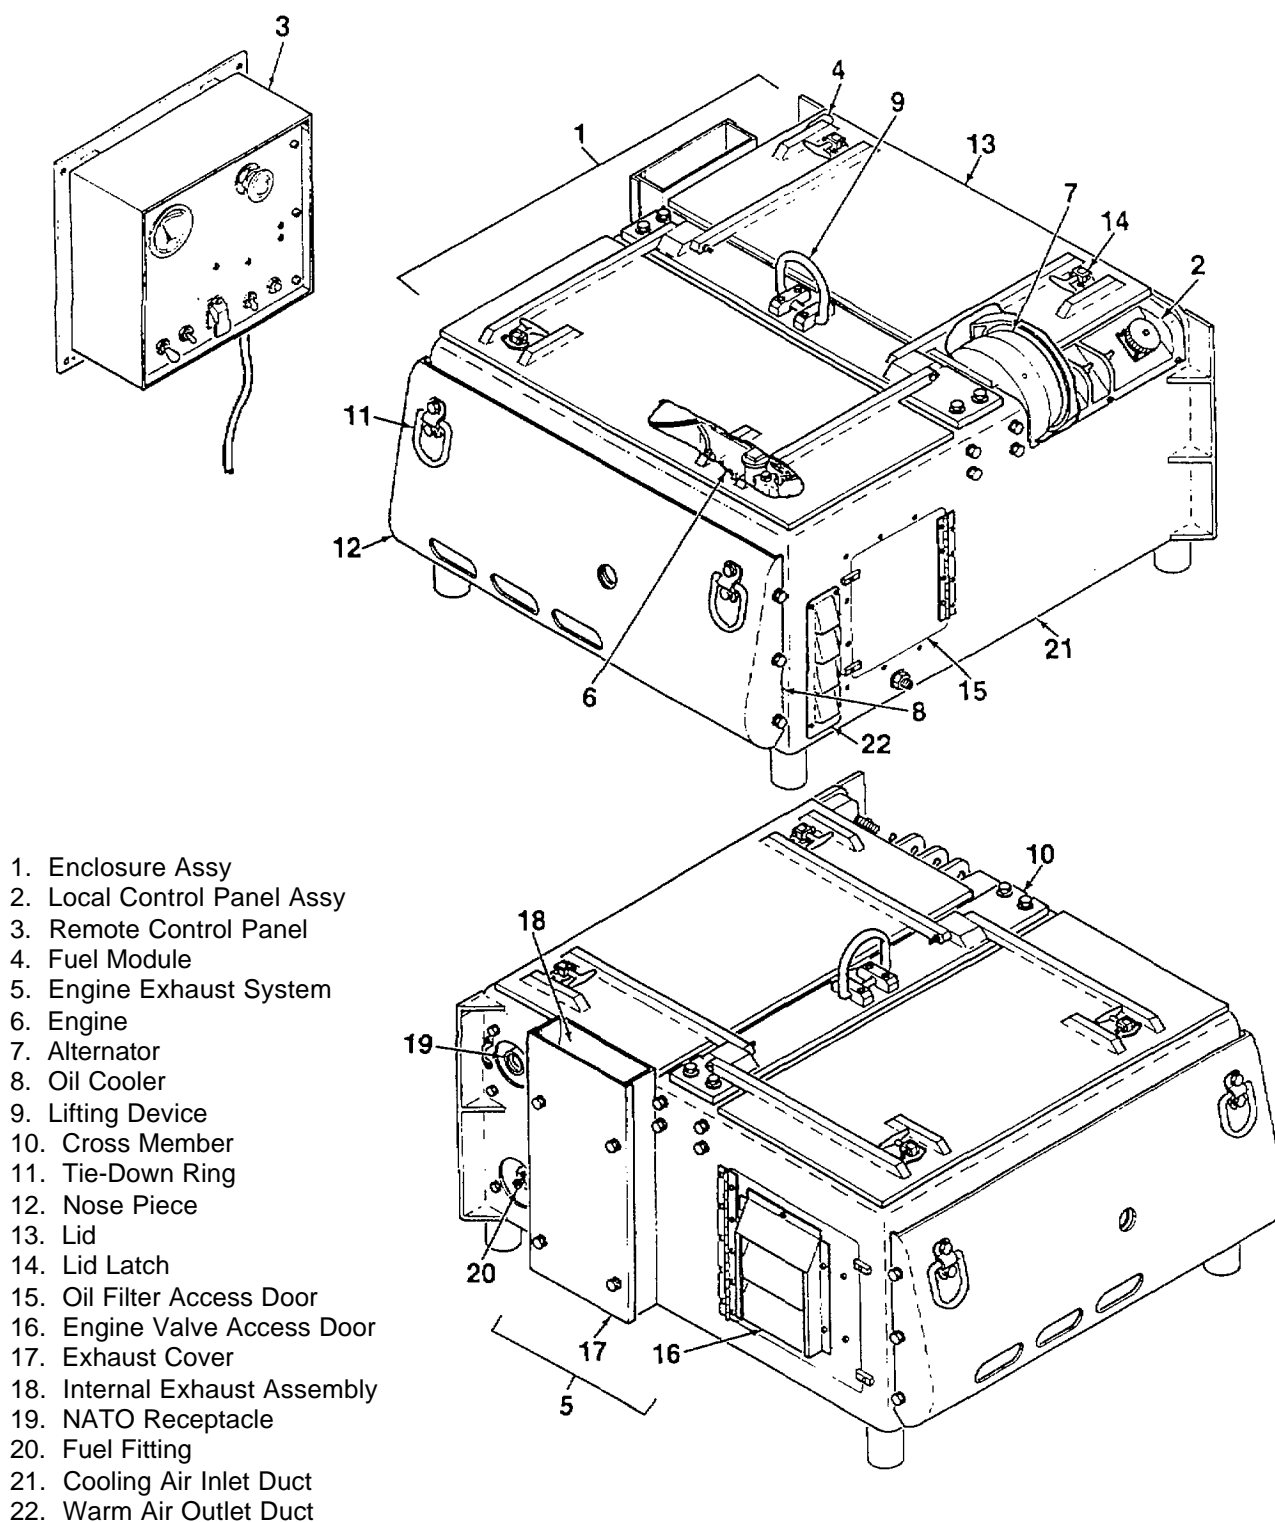
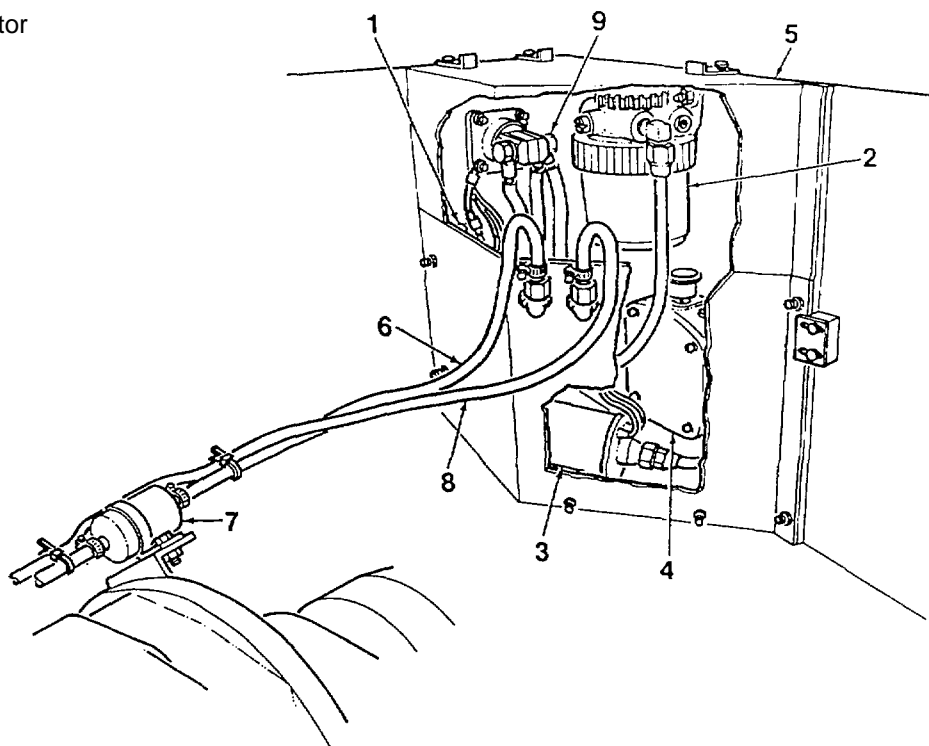

Figure 1-1. 5kW, 28VDC, Diesel Engine Driven Auxiliary Power Unit (APU)
Figure 1-2. Fuel System Components
This manual provides instructions on operation, troubleshooting, and maintenance of the 5kW, 28VDC, Diesel Engine Driven Auxiliary Power Supply (APU), MEP-952B, NSN 6115-01-452-6513. Information is provided on principles of operation, controls and indicators, preventive maintenance checks and services, lubrication, operation under both local and remote conditions, troubleshooting, and maintenance. Refer to Figure 1-1 for full view illustrations of the APU showing features pertinent to the operator.
**1-10. LOCATION AND DESCRIPTION OF MAJOR COMPONENTS (FIGURE 1-1).**
b. The APU consists of an aluminum enclosure assembly (1, Figure 1-1), local control panel assembly (2), remote control panel assembly (3), fuel module (4), engine exhaust and silencer system (5), single-cylinder diesel engine (6), 6 phase brushless alternator (7), engine oil cooler (8), and associated wiring harnesses, electrical connectors, and fuel hoses. Two detachable mounting brackets are secured to the front sides of the APU enclosure. Two vertical mounting brackets are welded to the rear corners of the enclosure. These brackets are used to secure the APU to the M1068 vehicle.
c. **Enclosure Assembly.** The enclosure assembly (1, Figure 1-1) supports and protects all APU components. The enclosure housing is a one-piece aluminum structure and forms the front, back, sides, and base of the enclosure assembly. A single point lifting device (9) is mounted to the top-center cross member (10). Four tie-down rings (11) are mounted on the enclosure, two on the nose piece (12) and two on the rear housing panel.
d. Two liftable lids (13) are mounted to the top of the of the enclosure assembly. Fold-down latches (14) secure the lids in place during vehicle operation. The lids allow easy access to APU components for inspection, servicing, and maintenance tasks. The lids and top-center cross member (10) may be removed as an assembly, allowing fast and easy removal/replacement of the engine and alternator. Two hinged doors (15, 16) located on the sides of the enclosure permit quick access to the engine. The engine oil filter door (15) opens to allow access to the engine oil filter, engine oil cooler, and related hoses. The engine valve access door (16) allows access to the engine rocker box and cylinder head for adjustment procedures.
e. A slanted nose piece (12) is attached to the front of the enclosure. The nose piece deflects foreign objects that may come up the front of the vehicle, protecting the APU. A hole in the nose piece allows for insertion of the engine crank handle, permitting manual start of the engine if required. The oil cooling fan is mounted to the enclosure housing front panel, behind the nose piece.
f. A metal exhaust cover (17) is mounted to the left side of the enclosure. The cover protects the exhaust silencer (18) and exhaust pipe, and prevent personnel from touching hot exhaust components. The cover is closed on the bottom to ensure that all hot exhaust air escapes upward. A NATO electrical receptacle (19) and fuel fitting (20) are accessed through recesses located to the left of the exhaust cover.
g. A cooling air inlet duct (21) is located under the enclosure housing. Two warm air outlet ducts (22) are located on the sides of the enclosure. Each outlet duct is baffled. The inside of the enclosure and underside of the access lids are covered with sound-proofing material to reduce noise.
h. **Local Control Panel Assembly.** The local control panel assembly (2, Figure 1-1) is mounted at the right rear corner of the enclosure assembly and contains all the control devices required to operate the APU. The local control panel allows the operator to start and run the APU, transfer control to the remote control panel assembly (3), and stop the APU in the local or remote operating mode.
k. **Remote Control Panel.** The remote control panel (Figure 1-1) allows for operation of the APU from inside of the vehicle. The remote control panel consists of a DC voltmeter, START / PRIME RUN / OFF switch, PREHEAT switch, BATTLE SHORT OFF switch, APU ON switch, EMERGENCY STOP push-button, a printed circuit board, and associated connectors. LED indicator lights are used to indicate the following conditions; APU ON, battle short ON, HIGH ENGINE TEMPERATURE, and LOW OIL PRESSURE. LEDs are tested using a PRESS TO TEST LAMPS switch, located on the remote panel.
l. An eight (8) foot interconnect cable connects the APU local control panel to the remote control panel. Refer to Description and Use of Operator's Controls and Indicators (Chapter 2) for detailed information on remote control panel assembly components.
m. **Fuel System and Fuel Module.** APU fuel system components are housed within a removable fuel module (Figure 1-2). The fuel module consists of an inlet fuel fitting (1), fuel filter water separator (2), electric fuel pump (3), fuel float valve assembly (4), and related hoses and fittings.
n. The module is fitted with a removable cover (5) for ease of maintenance and may be removed as a unit from the APU enclosure. The module cover is equipped with three slide latches that secure the cover during unit operation. A hole in the module cover moderates air temperature, keeping the temperature within the module cooler than the temperature within the rest of the APU enclosure.
o. Fuel for operation of the APU is supplied to the fuel module from the vehicle by way of a fuel interface hose. The APU may also be operated from an external fuel supply utilizing the same inlet fuel fitting (1). A fuel supply line (6) passes fuel from the fuel filter water separator (2), through an in-line fuel filter (7), to the engine fuel pump. A fuel return line (8) directs fuel from the engine fuel injector line to the fuel float valve assembly (4).
p. The fuel module also houses the NATO electrical receptacle (9), contactor, and related wiring and terminals that control power output to the vehicle.